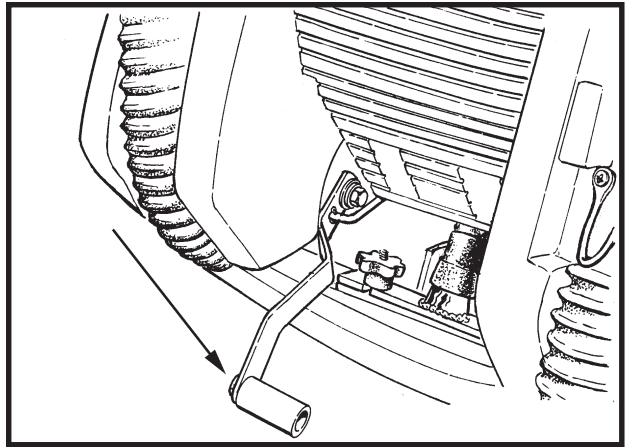

Figure 12
2. Set the parking brake (if provided) by putting it into the down position. See figure 12. Make sure the key switch is in "OFF" position.